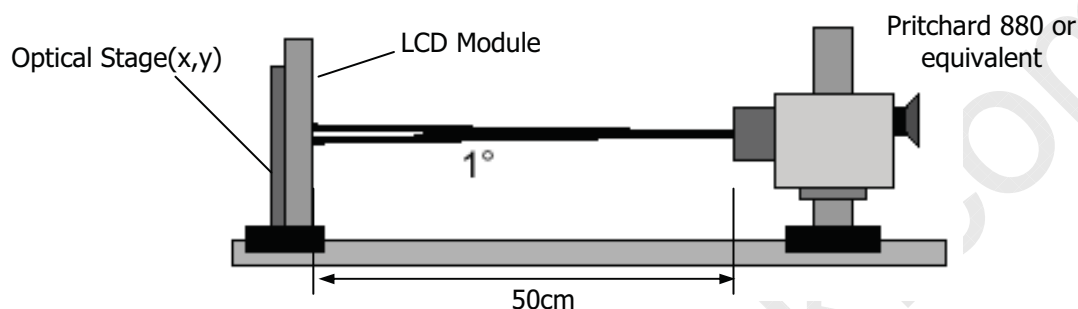

FIGURE. 6 Optical Characteristic Measurement Equipment and Method
FIG. 6 presents additional information concerning the measurement equipment and method.
2. **Surface luminance** is luminance value at No.1 point across the LCD surface 50cm from the surface with all pixels displaying white. For more information see FIG 6. (By PR880)